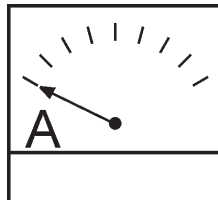

Figure 35. Ammeter (No Load)
7. The ammeter (Figure 35) will indicate **zero amps** with no load applied. When a load is applied, the ammeter will indicate the amount of current that the load is drawing from the generator.